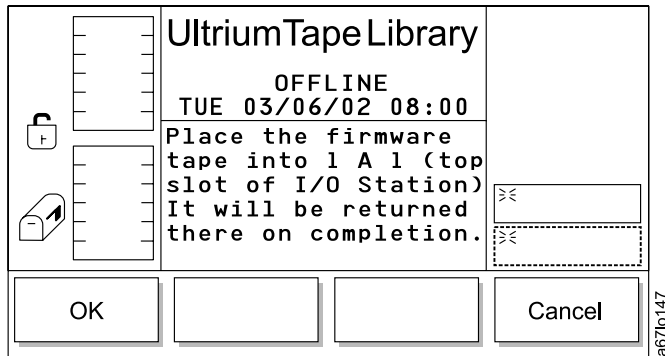

Figure 136. Firmware Update Dialog
- If **Firmware Update** is selected, the Firmware Update Dialog displays (see Figure 136 on page 120).